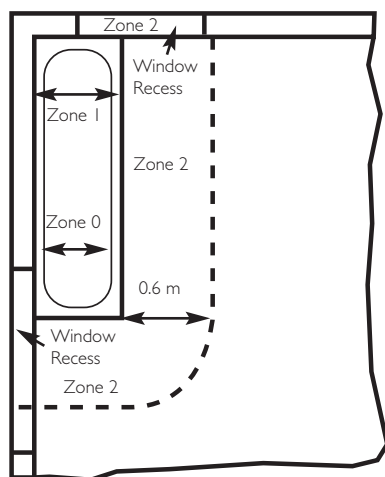

Fig. 11 In GB Only
1. If the boiler is fitted in a room containing a bath or shower and **NOT FITTED** with any integral timer or thermostat, it can be fitted in zone 2, (Figs. 11 & 12 shows zone dimensions for a bathtub. For other examples refer to the Current I.E.E. Wiring Regulations) reference must be made to the relevant requirements. In GB this is the current I.E.E. Wiring Regulations and Building Regulations. In IE reference should be made to the current edition of I.S. 813 "Domestic Gas Installations" and the current ETCI rules.